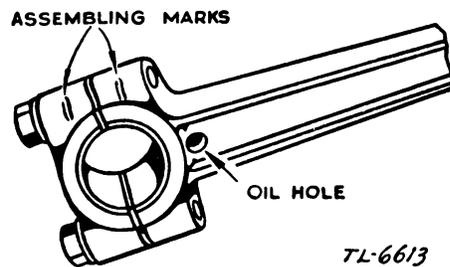

FIGURE 17. Connecting rod.
e. Connecting rod (fig. 17). The connecting rod is assembled to the crankshaft with the oilhole in the lower bearing on the magneto side. The assembly marks on the bearing cap and connecting rod must be facing toward the cam gear. The screws are fastened with a screw-head locking plate. This screw-head locking plate must fit against the shoulder, and must be bent up against a flat side of the hexagon-head screw.